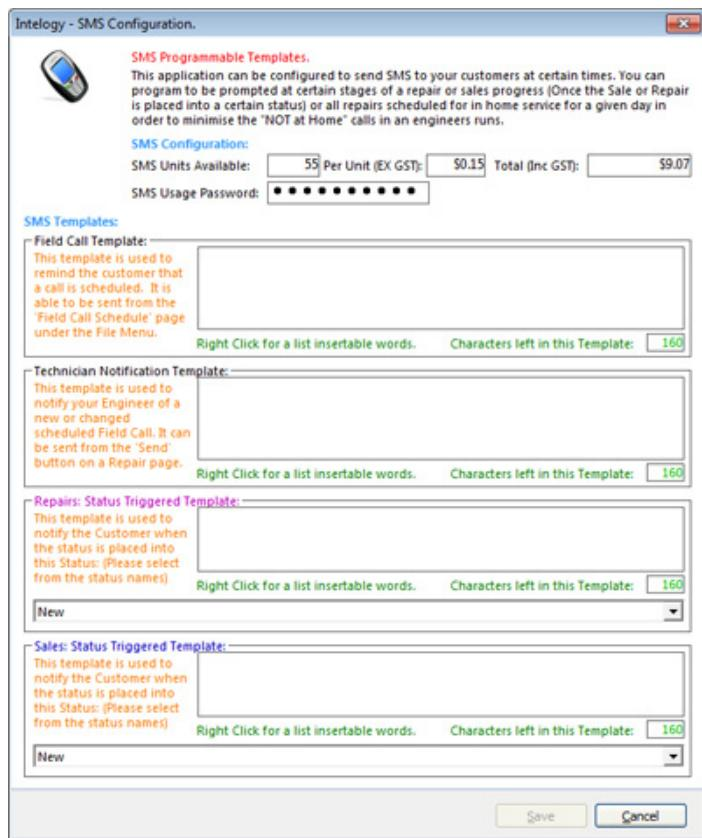

Figure 3.27 - Intelogy SMS Configuration Screen.
To enable SMS sending of messages you will need to have available credit. If you require credit please contact Intelogy on (03) 9038 9099. At the time of printing each credit is sold at \$0.15+GST. Payment must be made before the credits can be applied. Once payment has been made update your available credits located in Figure 3.27 - Intelogy SMS Configuration Screen